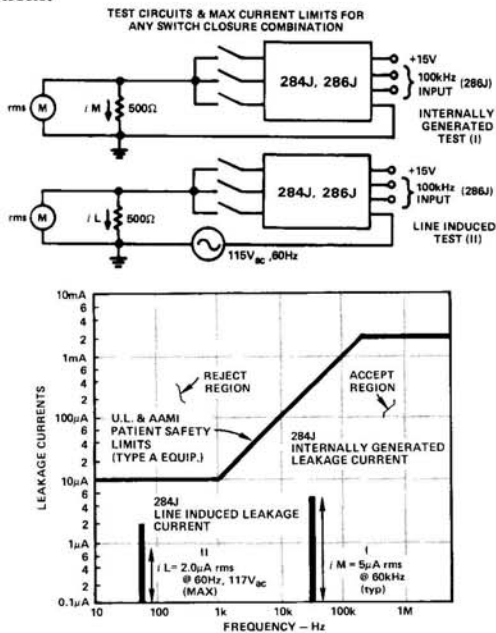

Figure 10. Model 284J Leakage Current Performance from Line Induced and Internally Generated (Modulator) Operating Conditions
**Leakage Current Limits:** The low coupling capacitance between inputs and output yields a ground leakage current of less than  $2.0\mu\text{A rms}$  (284J) and  $2.5\mu\text{A rms}$  (286J) at 115V ac, 60Hz (or  $0.02\mu\text{A/V ac}$ ). As shown in Figures 10 and 11, the transformer coupled modulator signal, through stray coupling, also creates an internally generated leakage current. Line frequency leakage current levels are unaffected by the power on or off condition of models 284J, 286J.